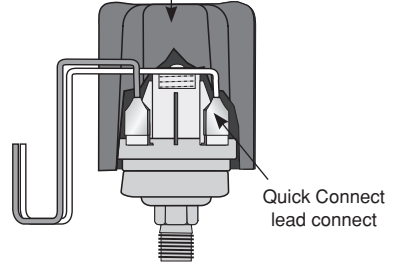

Figure 4B:
- 10B. Connect the other end of the pressure sensor cable with the two 1/4" quick connect terminals to the pressure shut-off sensor. The connections are interchangeable (Figure 4B).